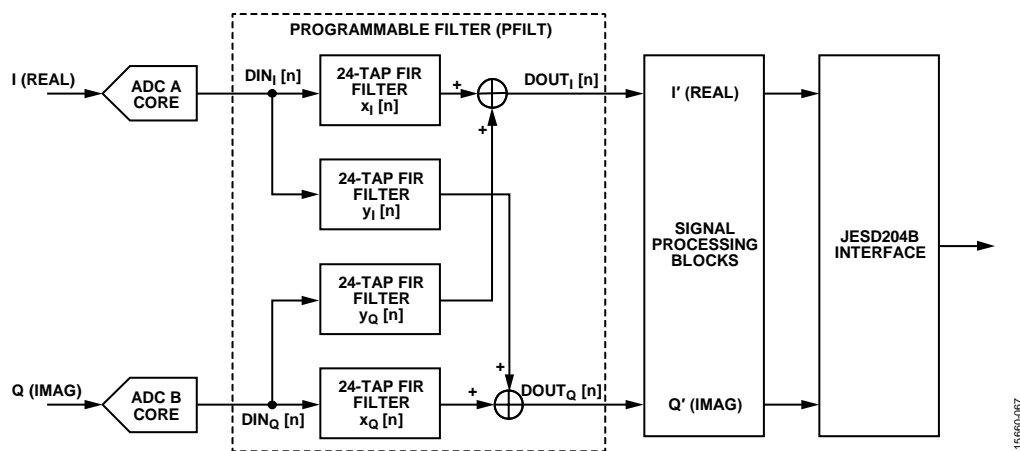

Figure 96. 24-Tap Full Complex Filter Configuration.
- Full complex filter using four real 24-tap filters for the I/Q channels (see Figure 96)